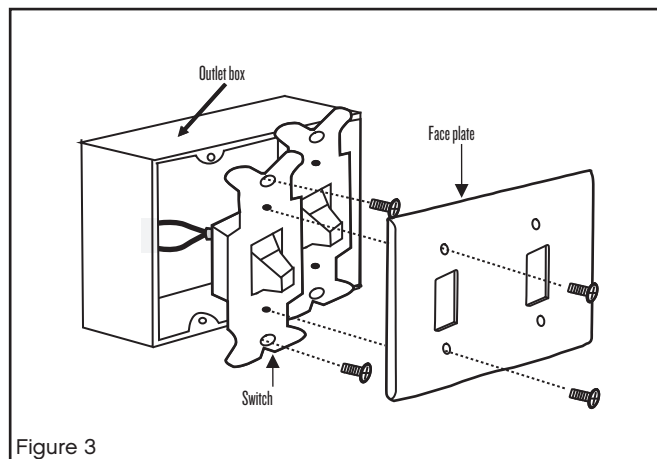

Figure 3
- 1 Remove the existing wall plate and old switch from the wall outlet box. (Fig. 3)